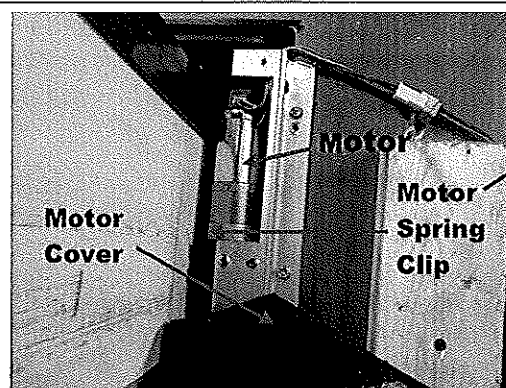

Figure 16
- Pull down the bulb seal and remove the motor cover (**FIGURE 16**). The motor cover may stick to the bulb seal.